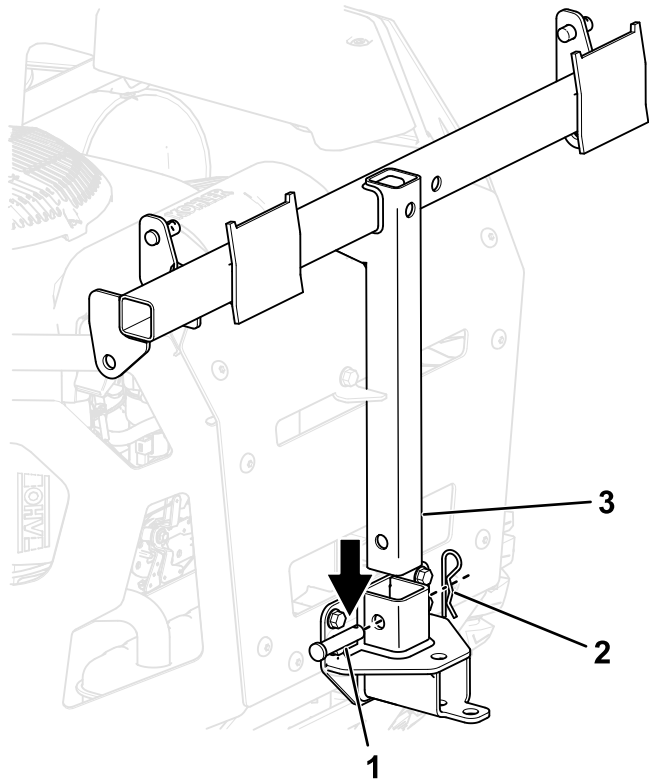

**Figure 14**
- Install the bagger mount bracket to the machine as shown in Figure 14.